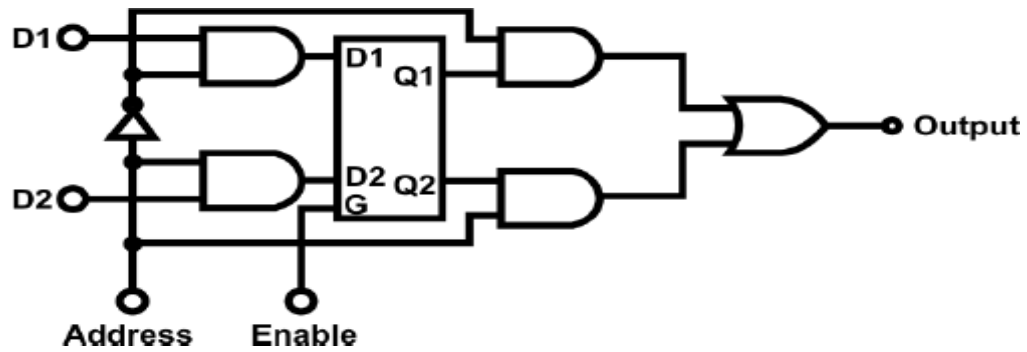

Figure 7.2: Implementation of the two-bit memory presented in Figure 1 (a).
- 1) In Figure 7.2, a 2-address (2-bit) RAM circuit has independent input and output. When Address=0, input D1 is enabled and the content of D1 will be made available at the output.